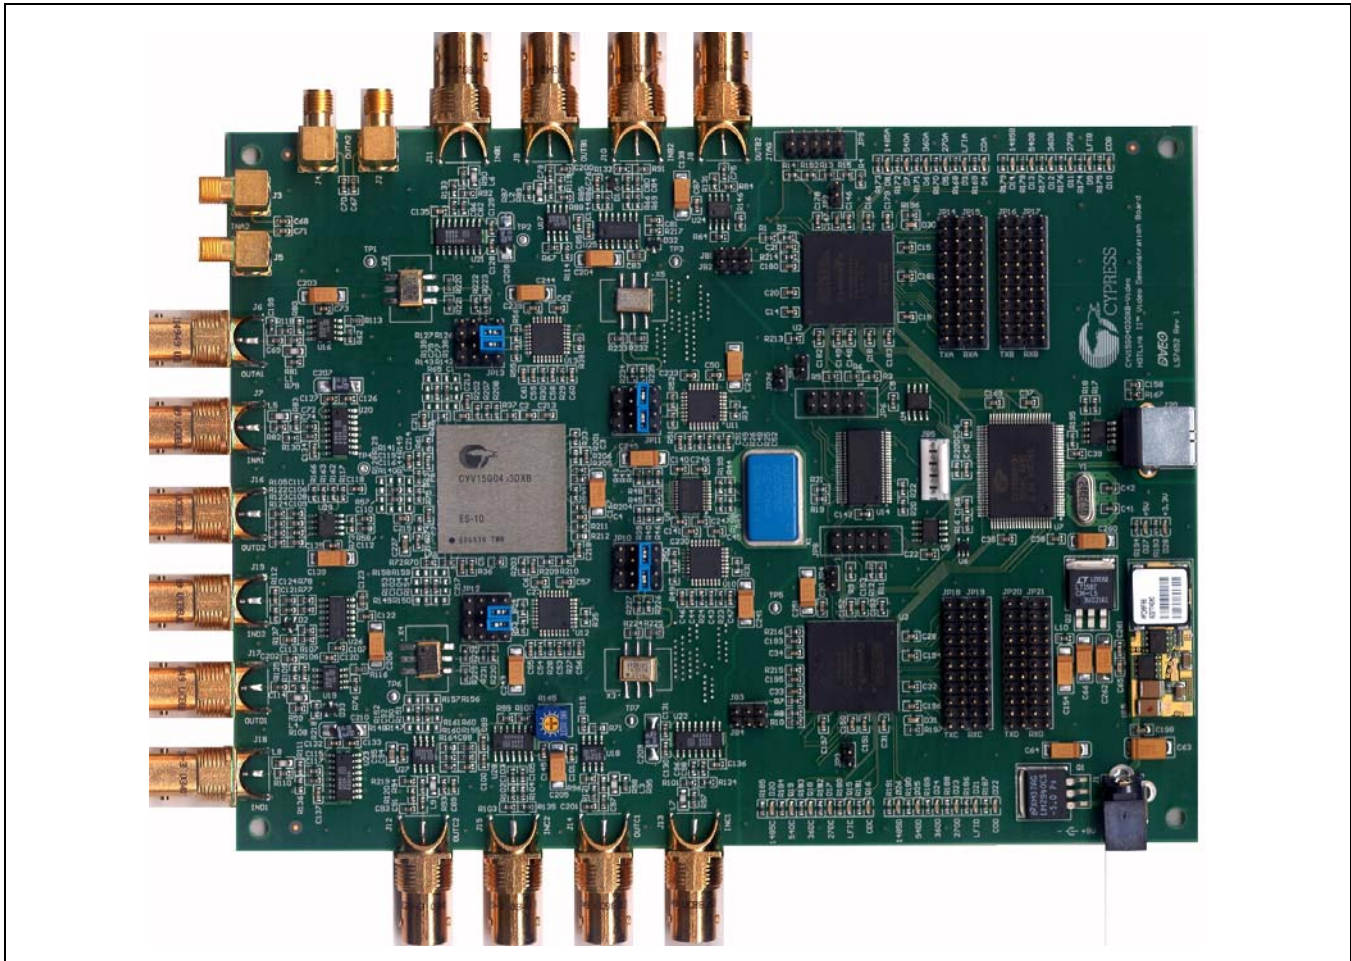

Figure 2-1. Top View of Video Demo Board
1. Quad Independent Channel HOTLink II CYV15G0404DXB Video PHY Demo Board, as shown in *Figure 2-1*.